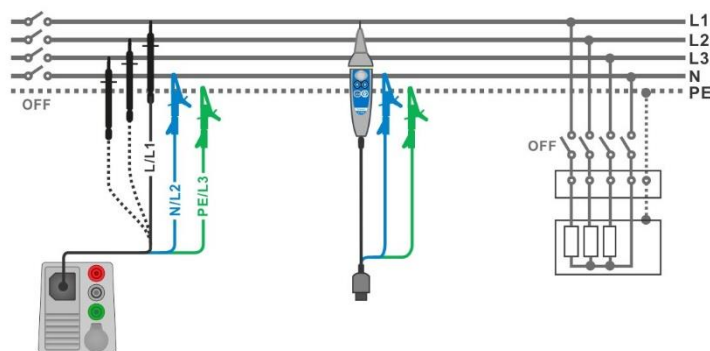

Figure 7.11: Connection of 3-wire test lead and Tip commander
- › Connect test leads to object under test (see **Figure 7.11**).